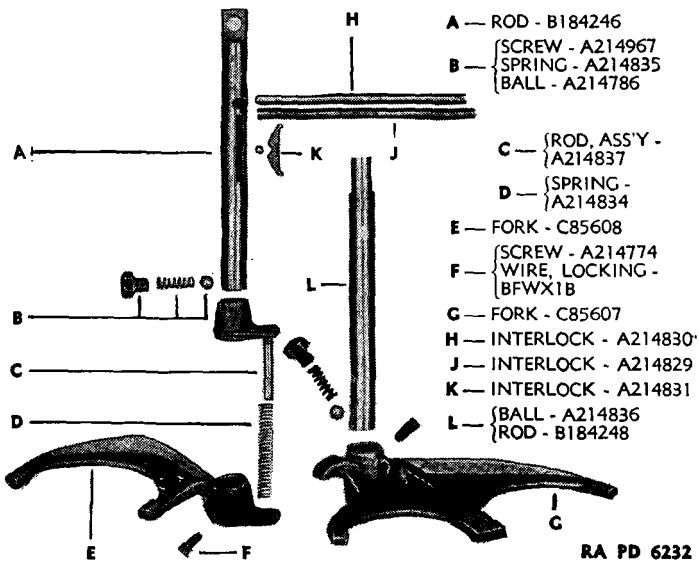

FIGURE 125.—Transfer case shifting mechanism, exploded.
(1) Separate transfer case from transmission. Proceed as outlined in step *c*(5) above.
(2) Remove shift rod cover and interlocks— $\frac{7}{16}$ -inch socket wrench. Remove three cap screws (BCAX1CA) and lock washers (BECX1G) holding transmission shift rod cover (B184294) to transfer case and remove cover and gasket (B184295) (fig. 76). Lift short first speed shift rod interlock (A214329) and long front drive shift rod interlock (A214830) out of holes in top of case (fig. 125).
(18) Remove front-drive shaft shift rod—cutting pliers, $\frac{7}{16}$ -inch square socket wrench, brass drift, hammer (or press). Remove locking wire and set screw (A214774) holding front-drive shaft shift fork (C85607) to shift rod (B184247) (figs. 125 and 126). Remove front-drive shaft shift rod rocker interlock (A214831) by pushing fork toward rear of case and pressing down on one end of interlock and lifting out of slot in shaft. Pull shaft out and lift the following out of case: shift fork, shift rod bracket (A214837),
(19) Remove direct- and underdrive-shift rod—cutting pliers, $\frac{7}{16}$ -inch square socket wrench. Cut locking wire and remove set screw (A214774) holding direct- and underdrive-shift fork (C85608) to shift rod (B184248) (figs. 125 and 126). Pull shaft out of case and lift fork out.
(20) Remove shift rod oil seal—brass drift, hammer. Drive direct- and underdrive-shift rod oil seal (A214842) out of case, if necessary to replace.